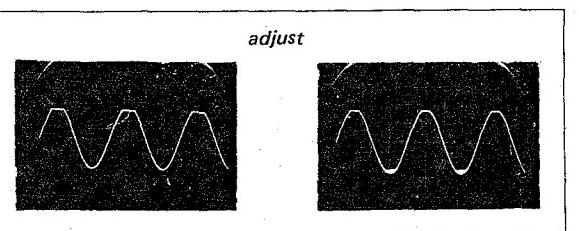

Fig. 5-3 Ac balance adjustment
- While watching the waveform on the oscilloscope, alternately turn the VOLUME control and adjust RV104. Set RV104 so that the positive and negative peaks of the output waveform are simultaneously clipped (as shown in Fig. 5-3) when increasing the VOLUME control just beyond the point that causes distortion.